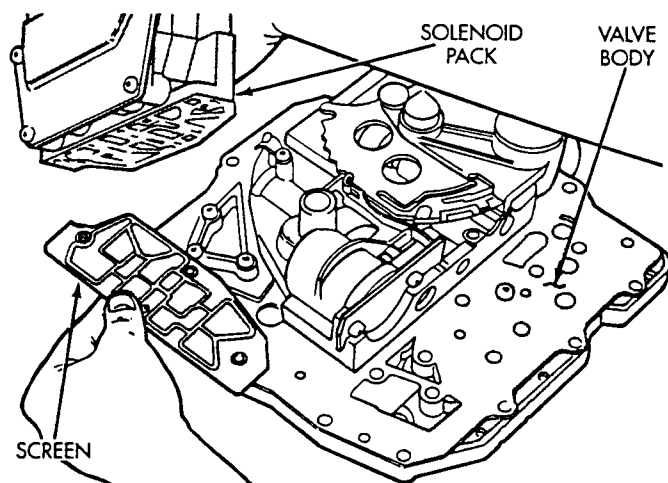

Fig. 3 Solenoid and Screen removal
- (4) Remove solenoid and screen from valve body (Fig. 3).